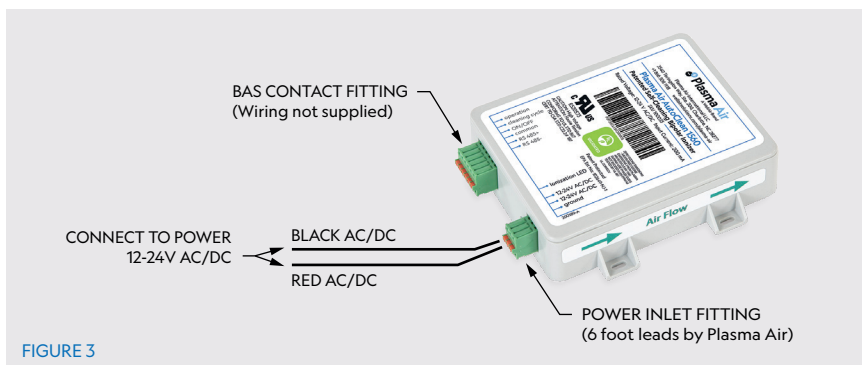

FIGURE 3
5. Connect power to ionizer using either 12V to 24V AC or DC. See Figure 3.